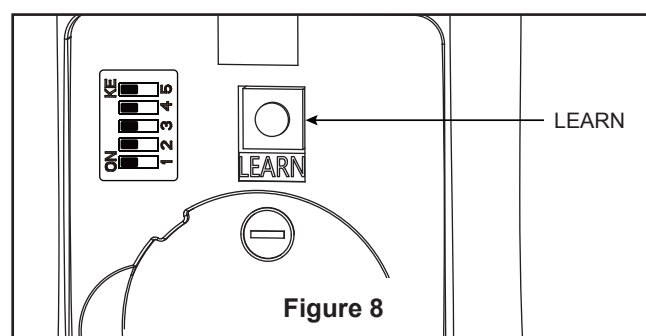

Figure 8
- ☐ 10. **Remote Control Speed (RPM) Setting Process :** (Figure 8)